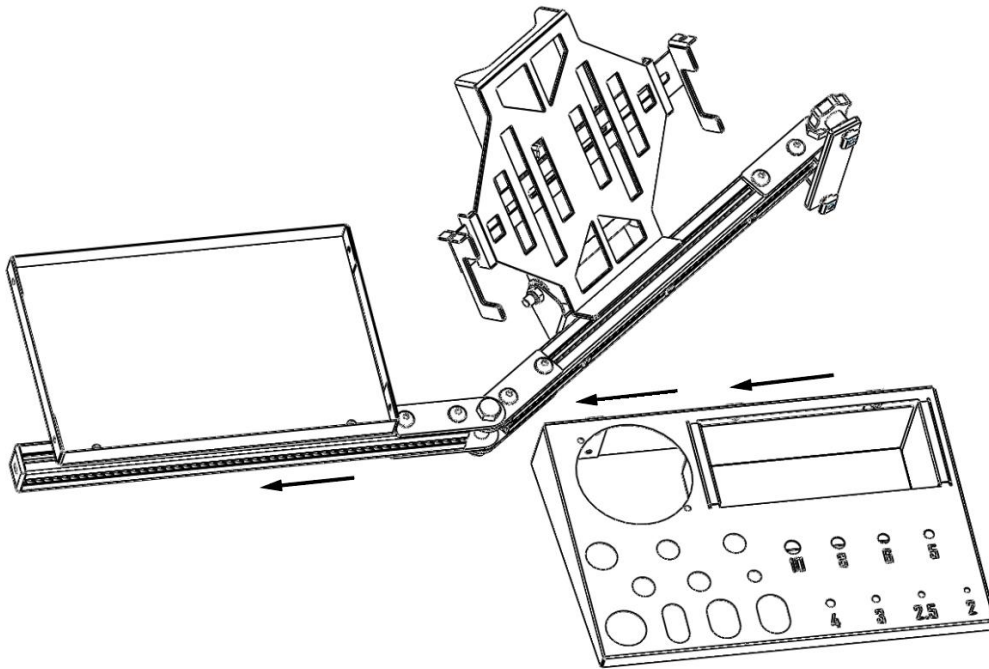
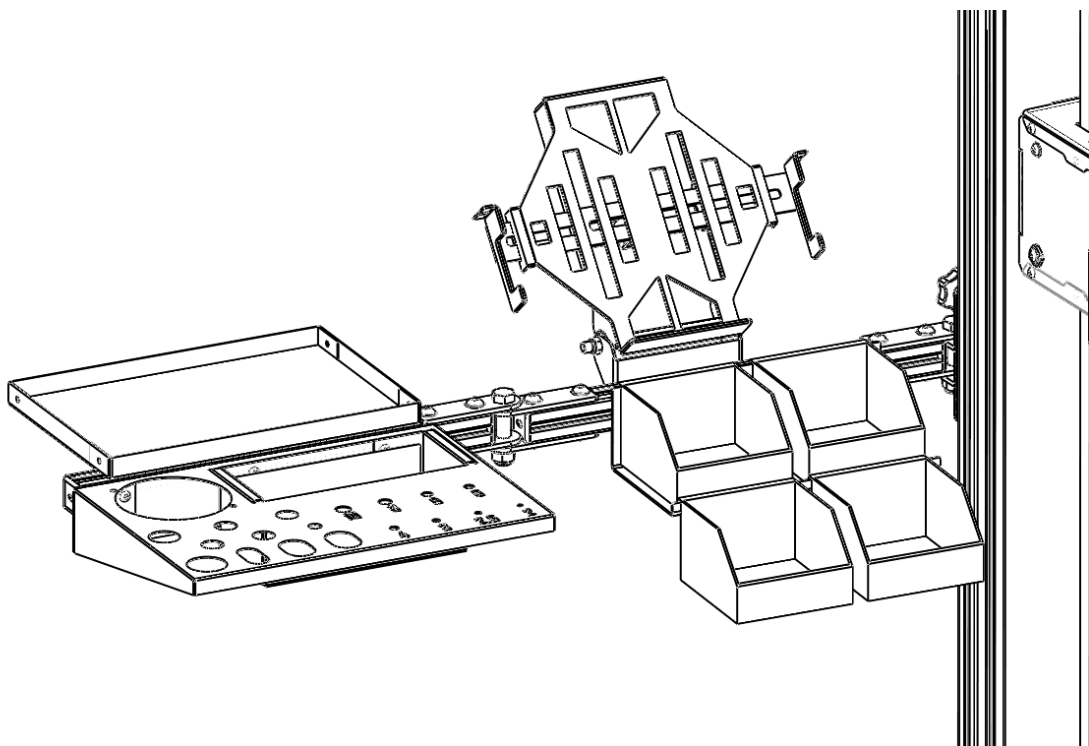

Figure 6: Installation of Add-Ons to the hinged arm
Figure 7: Example Add-On layout
3. Slide the Add-On's groove nuts into the groove of the hinged arm segment (Figure 6). Tighten the bolts with a 4 mm hex wrench. You can place the Add-Ons however you like it best. See Figure 7 for a sample mounting configuration.
- ◆ The holder is shipped in such a configuration as to be mounted on the back side of the hinged arm (Figure 7). If you wish to mount it to the front side of the arm, you must unthread the nut from the hinge bolt, remove the bolt, turn the mount around and reassemble the hinge.